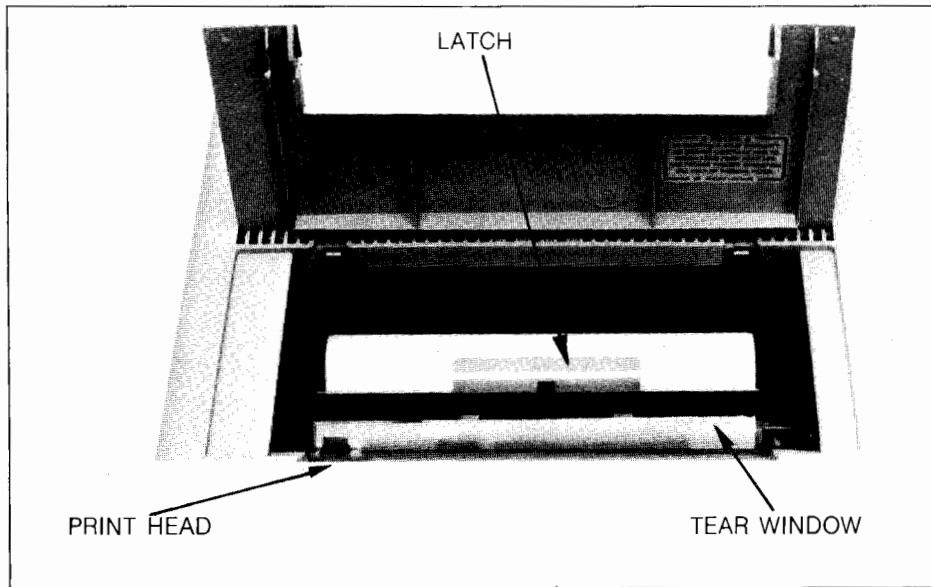

Figure 6-2. Printer Mechanism
The print mechanism is shown in Figure 6-2.
To load a roll of Thermal Paper into the printer, refer to Figure 6-2 and use the following instructions:
2. Press the latch (Figure 6-2) toward the front of the terminal to release the latching frame. Lift the hinged latching frame to its forward position.